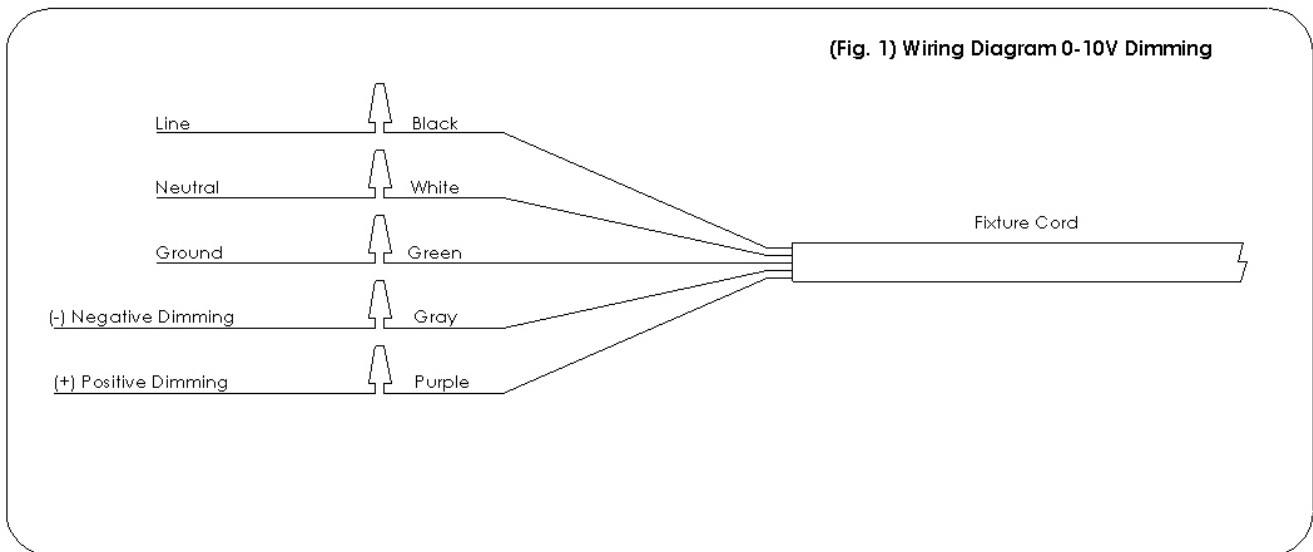

Fig. 1
3. If fixture is not fitted with existing plug, connect fixture wiring to mains wires. Use only UL listed wiring devices. Ref (Fig. 1) for wiring. Purple and Gray leads are used for 0-10V dimming ONLY. Cap wires if not used.
2. Attach **Starter Fixture** to structure. Connect **Starter Fixture** wiring to line wire. Use only UL listed wiring devices. Ref (Wiring Diagram, Fig. 1 pg. 3). Mains wiring inside fixtures is rated 14 AWG. Mains wiring connected by installer must be rated for the load per (NEC) National Electric Code and/or local electric code.